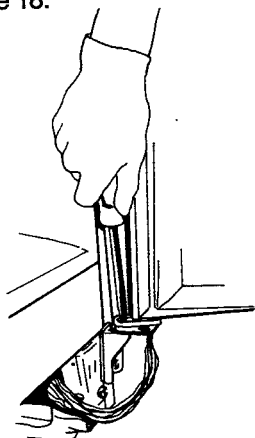

FIGURE 18
- 2. Open refrigerator door to gain access to door closure screw. See Figure 18.
- 3. Unscrew bottom refrigerator door closure with a phillips screwdriver. See Figure 18.